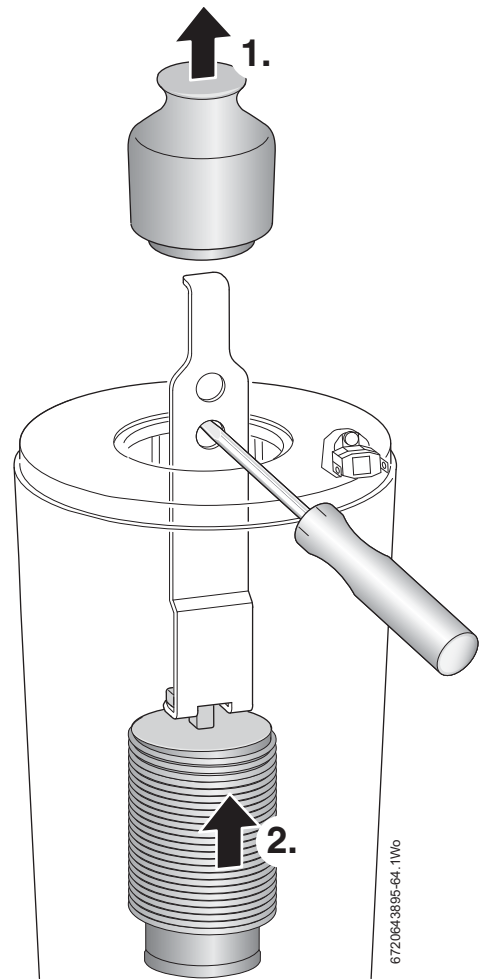

Fig. 62 Baffle removal
1. Refer to figure 62 and remove top baffle.
**i** If the lower baffle is stuck, it may be necessary to use the "Baffle removal tool" from the heat exchanger cleaning kit - 7 716 192 312, as shown in figure 62.
The baffles (1) and (2) must be refitted into the heat exchanger in the order shown in figure 62. Failure to do so may result in damage to the appliance.